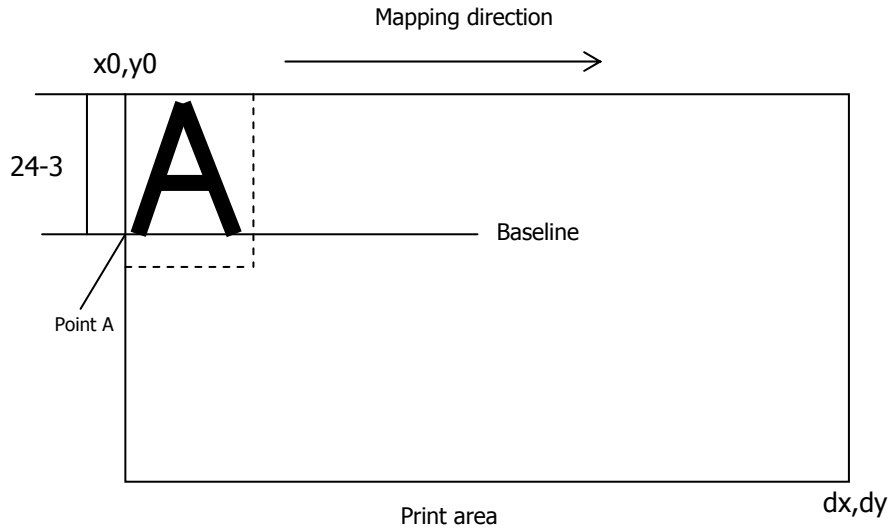
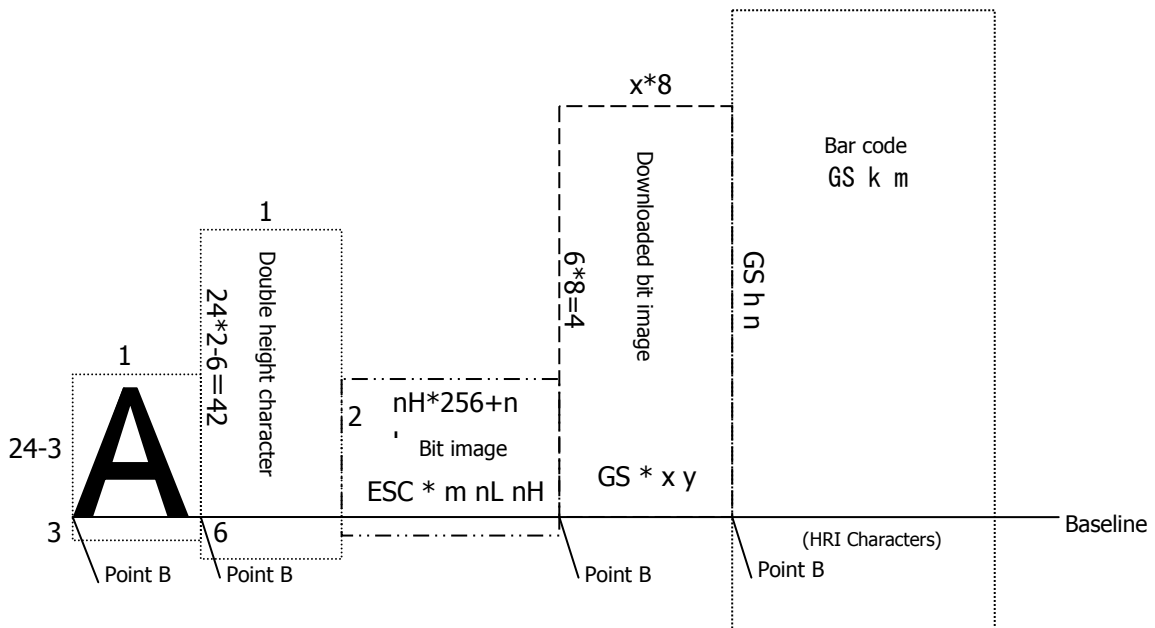

Figure 4-1 Mapping Position for Character Data
Figure 4-2 Mapping Positions for Print Data
- (1) The print area is set by ESC W. When the printer has finished all of the print and paper feed actions specified before receiving an ESC W, the ESC W sets the right end (as viewed facing the printer) as the start point (x0, y0) of the print area. The print area is a rectangle defined by two edges extending from the start point (x0, y0): one edge running in the "x" (Horizontal) direction by "dx" pitch (inclusive of the start point), and the other running in the "y" (Vertical) direction by "dy" pitch. (If no ESC W is defined, the default values are used to define the print area.)
- (2) With a print area defined by ESC W and a print direction specified by ESC T, when the printer receives print data, the print data is mapped in the print area where point A (see the Figure 4-1 "Mapping Position for Character Data") is used as the initial value of the start point. If the print data consists of characters, this start point serves as the baseline. If the print data is a downloaded bitmap image or a bar code, the print data is mapped with its lower-left point B aligned to the baseline. (See the Figure 4-2 "Mapping Positions for Print Data".) When attempting to map the HRI characters of a bar code, however, the section above the standard character height will not be printed.
- (3) If print data (or the space to the right of a character) extends beyond the print area before a command that involves a line feed (for example, LF or ESC J command) is received, a line feed is automatically executed in the print area, so that the mapping position of the print data is moved one line. The next mapping position will be the beginning of the line. In this case, the line feed width is as defined by a command such as ESC 2 or ESC 3.
- (4) By default, the line feed width is 1/6 inch, which is equivalent to 34 dots. If the print data for the next line includes a vertically doubled or taller character, a downloaded bitmap image extending two or more lines, or a bar code taller than the character height, the data, therefore, falls short of the line feed width, causing the upper dots of the character to overlap the print data of the current line. The line feed width needs to be increased.